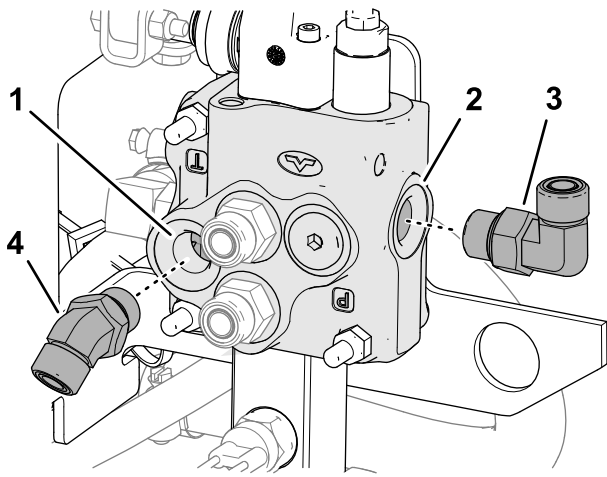

Figure 11
1. Assemble a 45° fitting into port-T of the auxiliary valve (Figure 11).